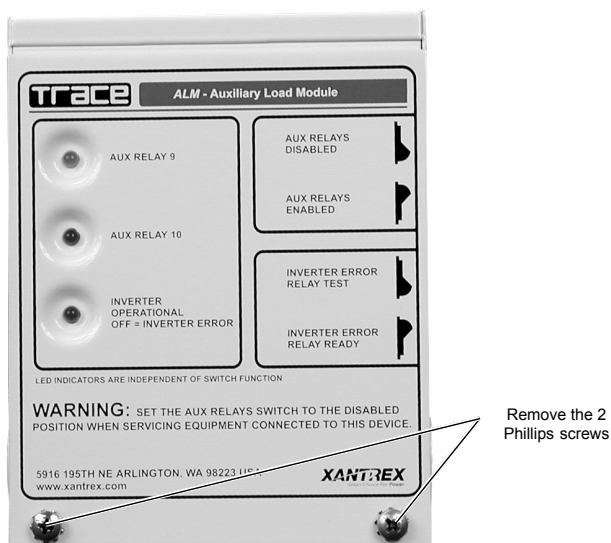

Figure 2-2
- Remove the two Phillips screws from the unit's front panel and remove the cover. Figure 2-2.